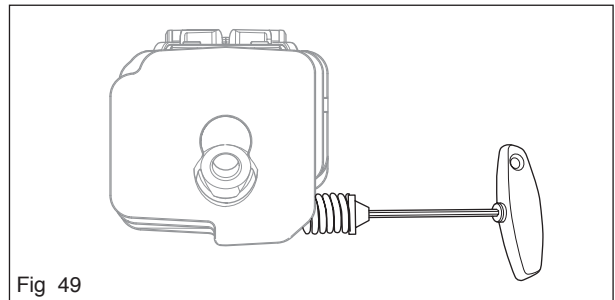

Fig 49
2. Dismantle the spring on the cylinder with the help of a 5 mm allen key (see figure 49).